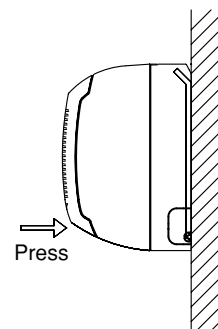

Fig. 3-27
2. Press on the air outlet to hold it in place, and press the lower part of the indoor unit until a “click” sound is heard and the indoor unit is securely fastened to the installation tabs on the lower side of the rear panel. (Fig. 3-27)